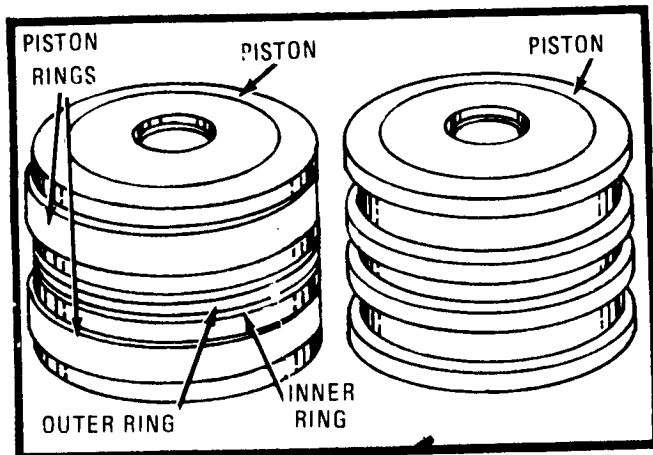

Fig. 7—Piston Assembly
5. Install new rings, one each inner and outer. Be careful that outer ring does not get scuffed from assembly. See Fig. 7.
6. Install the piston rings (2) in the grooves on either side of the center groove containing the inner ring and outer ring. Make certain that the ends where the piston rings come together are opposite each other.